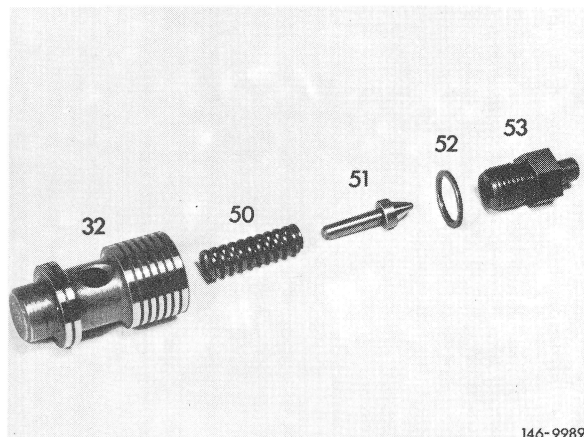

Fig. 7
Remove valve cone (51) and compression spring (50) from volume control valve (Fig. 7).